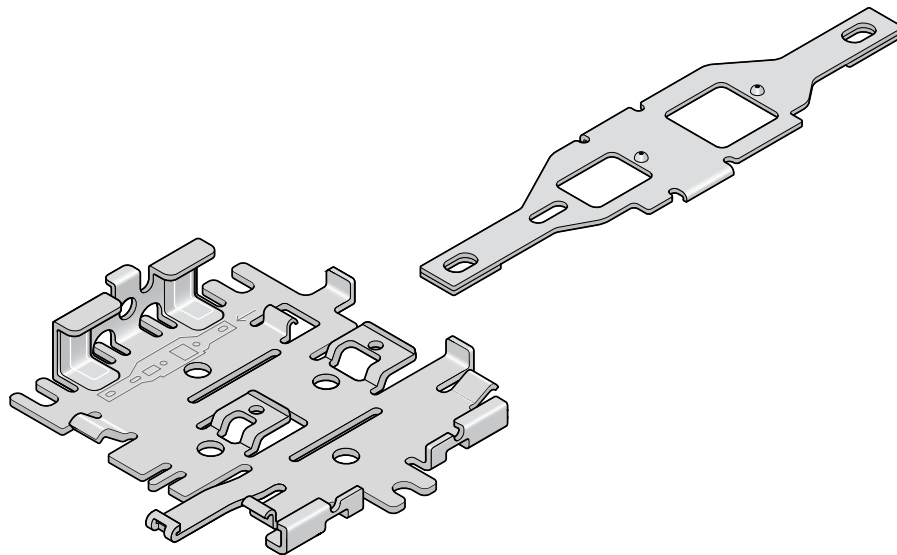

Figure 2-10: Mounting bracket and compatibility bar orientation
2. Orient the mounting bracket and the compatibility bar as shown in Figure 2-10.